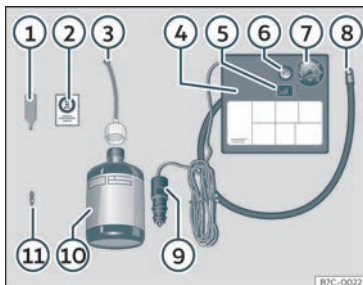

Fig. 34 Standard representation: anti-puncture kit contents.
The anti-puncture kit is located underneath the floor covering in the luggage compartment. It includes the following components » Fig. 34:
- Unscrew the tyre valve cap and insert. Use the » Fig. 34 ① tool to remove the insert. Place it on a clean surface.
- Shake the tyre sealant bottle vigorously » Fig. 34 ⑩.
- Screw the inflator tube » Fig. 34 ③ into the sealant bottle. The bottle's seal will break automatically.
- Remove the lid from the filling tube » Fig. 34 ③ and screw the open end of the tube into the tyre valve.
- Place the insert back into the tyre valve using the tool » Fig. 34 ①.
- Screw the compressor tyre inflator tube » Fig. 34 ⑧ into the tyre valve.
- Check that the air bleed screw is closed » Fig. 34 ⑥.
- Insert the connector » Fig. 34 ⑨ into the vehicle's 12-volt socket » page 144.
- Turn the air compressor on with the ON/OFF switch » Fig. 34 ⑤.
- Attach the sticker »» Fig. 34 ② to the instrument cluster, within the driver's visual field.
Screw the inflator tube »» Fig. 34 ⑤ again and check the pressure on the gauge ⑥.